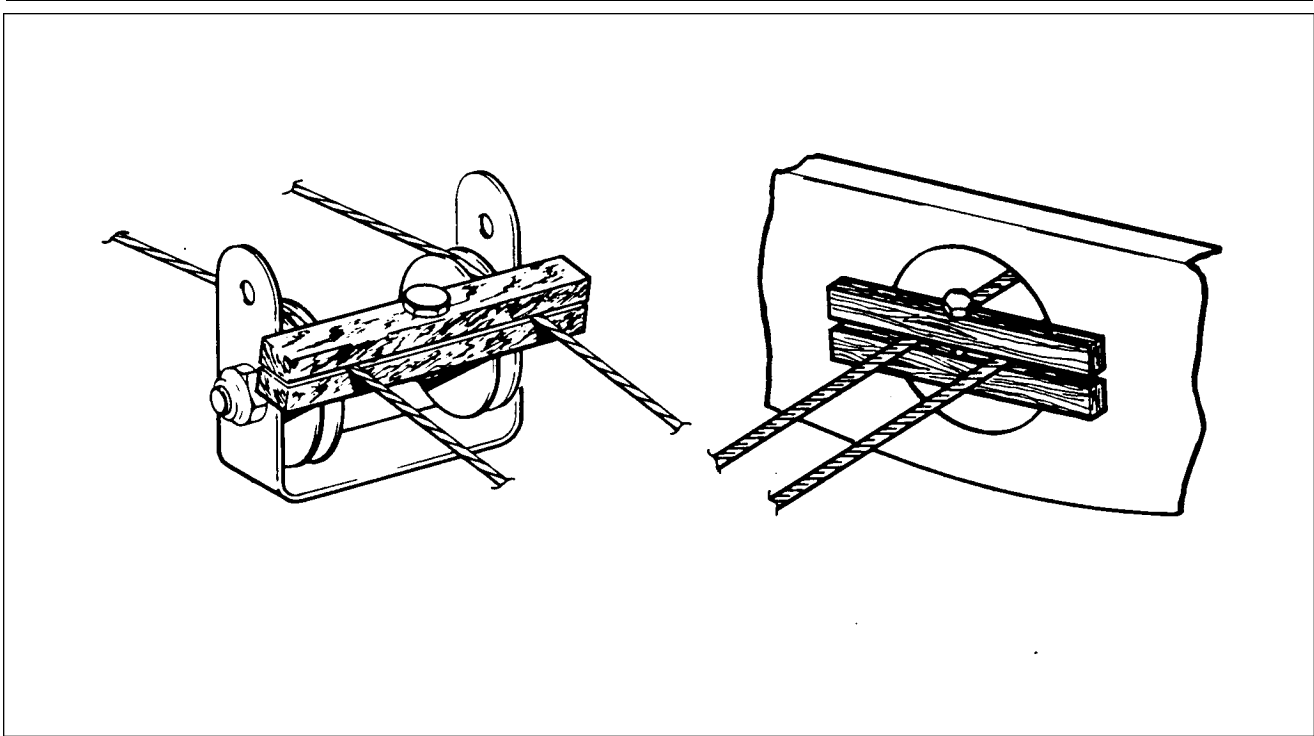

Figure 55-2. Methods of Securing Control Cables
4. Install cable blocks (as illustrated in figure 55-2) on stabilator trim control cable at first set of pulleys forward of cable turnbuckles to prevent forward cable from unwrapping.